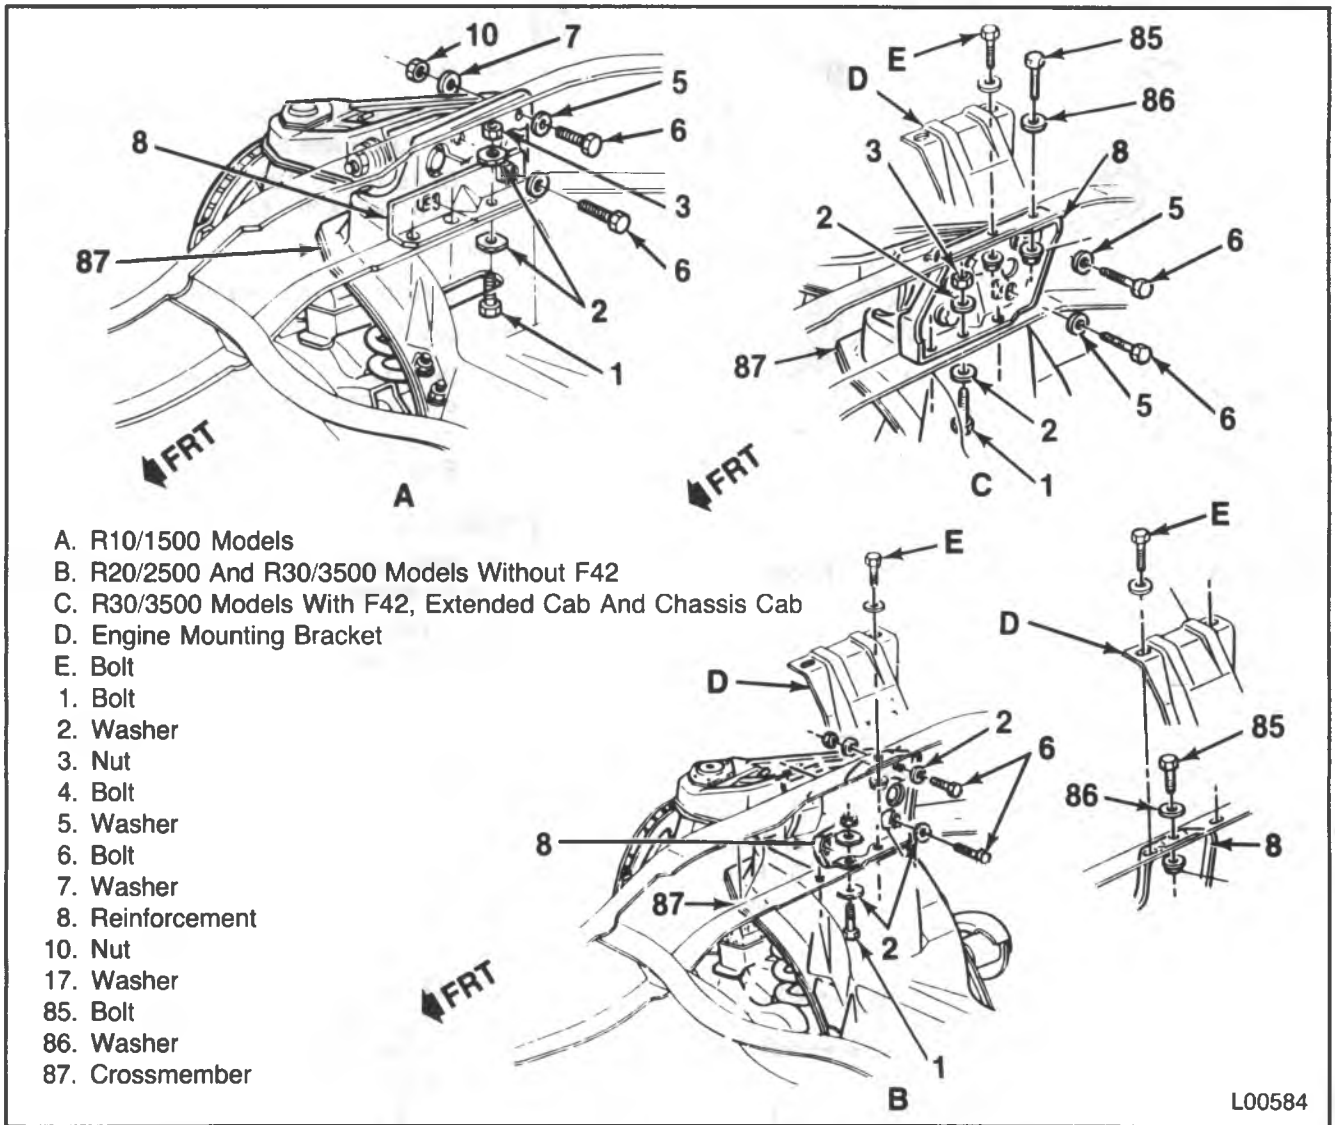

Figure 34 — R-Model Suspension Unit Attachment
11. Suspension crossmember from the frame rail (figure 34).
12. Upper control arm bracket to the frame side rail nuts (10), washer (7) and bolts (6).
2. Suspension crossmember to frame rail bolts (figure 34).
3. Upper control arm (28) and frame bracket bolts (6).
4. Washers (7) and nuts (10).